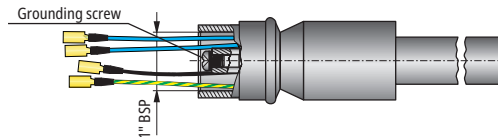

Figure 12
- Use the grounding screw terminal (see Figure 12.) to ground the extension pipe. Caution! Life protection ground, 25 A class ground connection must be used.